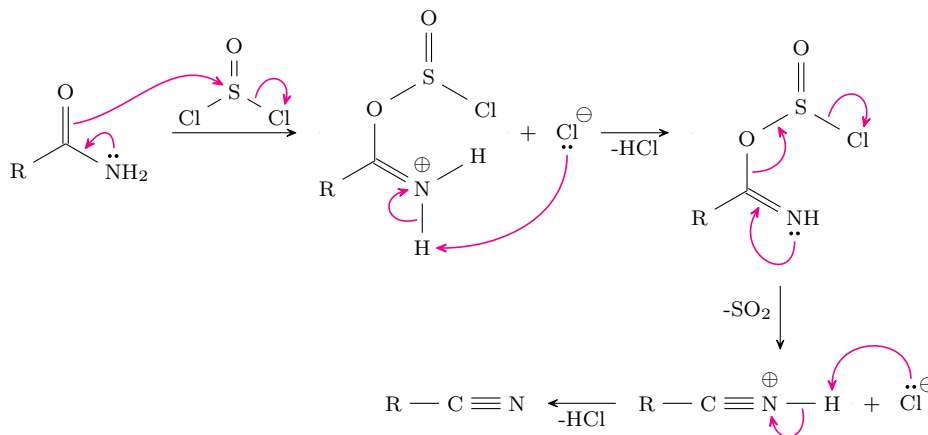

Figure 2.13: Dehydration of amides mechanism.
- Notice how the amide overall loses two hydrogens and an oxygen (i.e., a water molecule overall) in Figure 2.13.